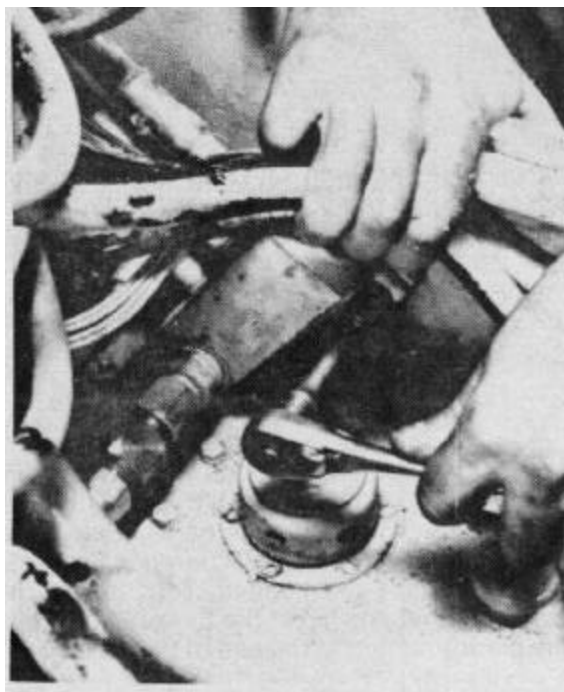

Figure 5-136
8. Remove the (2) 3/8-16 bolts from the lift line manifold using a 9/16 inch socket wrench. Hydraulic lines may remain attached to the manifold (Fig. 5-136).
16. Install the lift line manifold (Fig. 5-136).